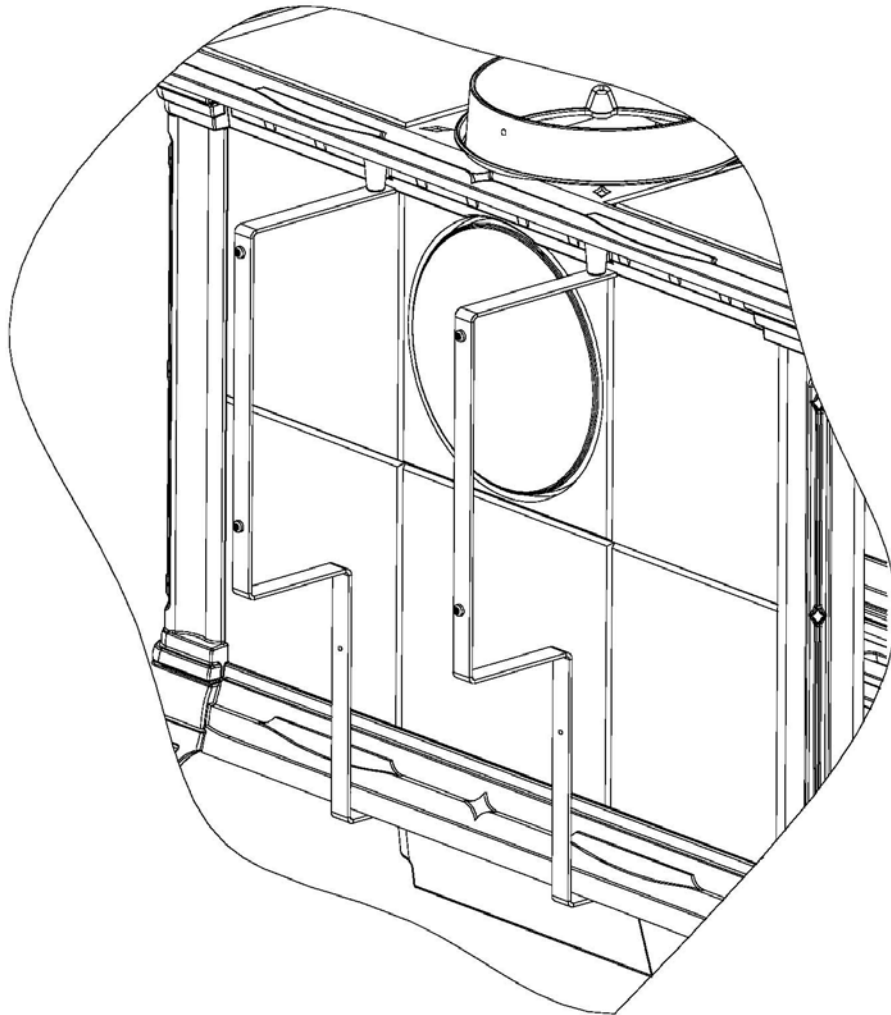

FIGURE 2 – Bracket Mounting Detail
1. Install the heat shield mounting brackets - locate the screw holes under the rear edge of the stove's top and bottom castings. Install two of the 1/4-20 screws in the bottom casting – threading them in only about two turns (see Figure 2). Place the brackets on the stove with the larger hooked portion of the brackets extending upwards as shown in figure 2. Hook the bottom slots on the brackets over the previously installed bottom screws. Line the brackets up with the threaded holes on the rear top of the stove, and use the remaining two 1/4-20 screws provided to secure the brackets to the stove. Tighten all four screws.